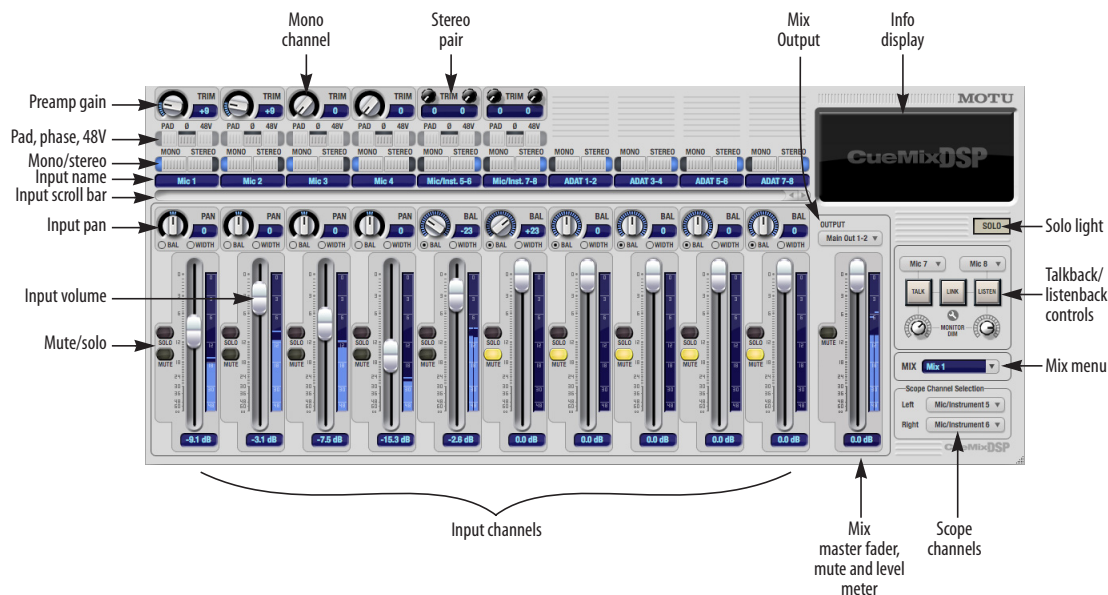

Figure 9-1: MOTU CueMix FX is a virtual mixer that gives you control over the 8pre USB's on-board mixing features.
CueMix FX displays one mix at a time. To select which mix you are viewing, choose it from the Mix menu, as shown in Figure 9-1. Double-click the name to change it.
To view a mix, choose it from the Mix menu, as shown in Figure 9-1. The menu shows all mixes by name, followed by the audio interface's output pair that it corresponds to.
The master fader (Figure 9-1) controls the overall level of the mix (its volume on its stereo output). Use the individual input faders to the left to control individual input levels.
The master mute button (next to the master fader) (Figure 9-1) temporarily disables (silences) the currently displayed mix.
Click the *Phase* button (Figure 9-1) to invert the phase of the input signal. For stereo pairs, you can invert the phase for the left and right channels independently: click the phase button (Ø) repeatedly to cycle among two states for mono channels (on or off) and four states for stereo grouped channels (no inversion, left only, both, or right only).
Click the *Mono* button (Figure 9-1) if you would like an input to be treated as a mono channel. If you would like to work with it as one channel of a linked stereo pair, click the *Stereo* button. Inputs are grouped in odd/even pairs (mic 1-2, Analog 1-2, 3-4, etc.) Stereo pairs appear as a single channel strip in the CueMix FX mixer.
Click the input name (Figure 9-1) to edit the name. Input names are global across all mixes. This name also appears in host audio software on the computer (if the software supports channel names).
The input pan knob (Figure 9-1) pans the input across the bus stereo outputs. All input pan settings belong to the mix currently being viewed.
Use the input fader (Figure 9-1) to adjust the input volume in the mix. Note that an input can have different level, pan, mute and solo settings for each mix. Input channel level meters are post-fader.
To add an input to a mix, or remove it, click its MUTE button. To solo it, use its SOLO button. The Solo light (Figure 9-1) illuminates when any input is soloed (including inputs that may currently be scrolled off-screen).
The *Scope channel selection* menus (Figure 9-1 on page 50) let you choose what input channels will be fed to the CueMix FX audio analysis (scoping) features. See “Devices menu” on page 54.
- 1 Select the source mix (Figure 9-1) and choose Copy from the Edit menu (or press Command-C).